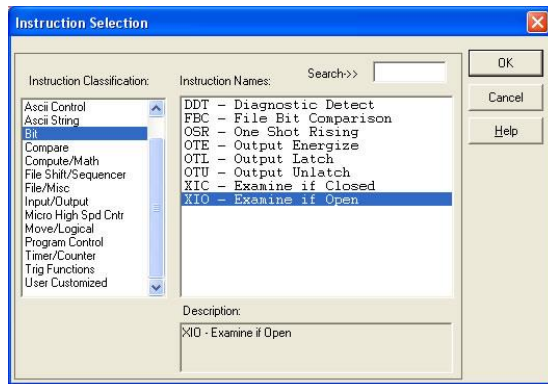

Figure 53: XIO Instruction Selection
- Select the “XIO” instruction from the “Bit” classification, then click OK. Refer to Figure 53.